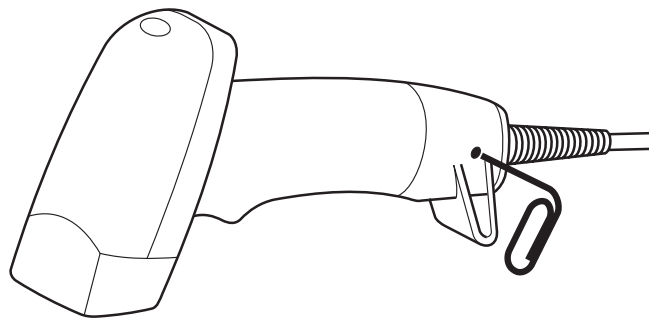

Figure 2
**Note:** To remove/replace the reader or interface cable, insert paper clip end into the release button on the reader (Figure2) and gently pull interface cable from reader.